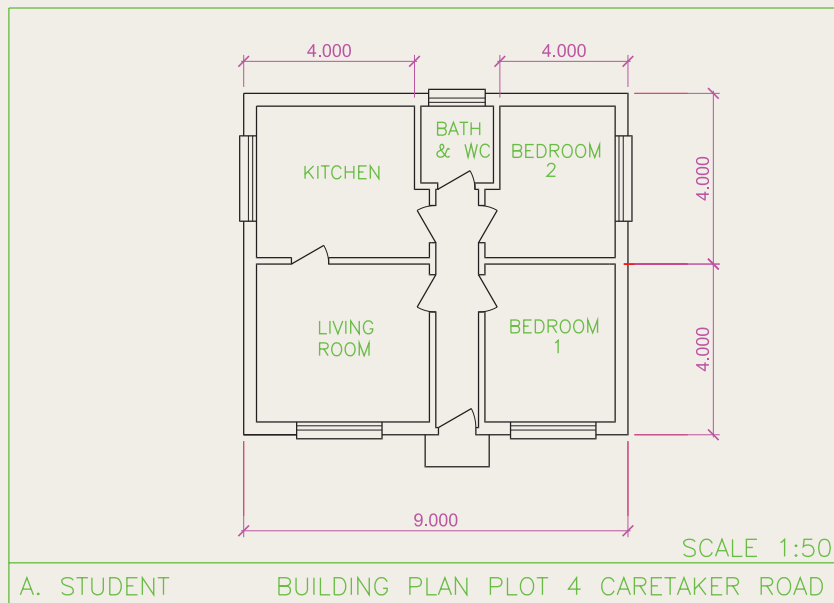
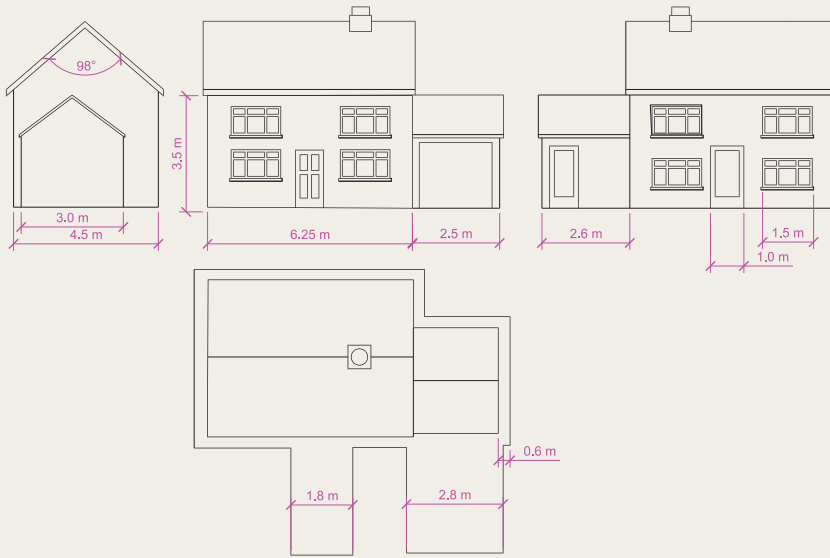
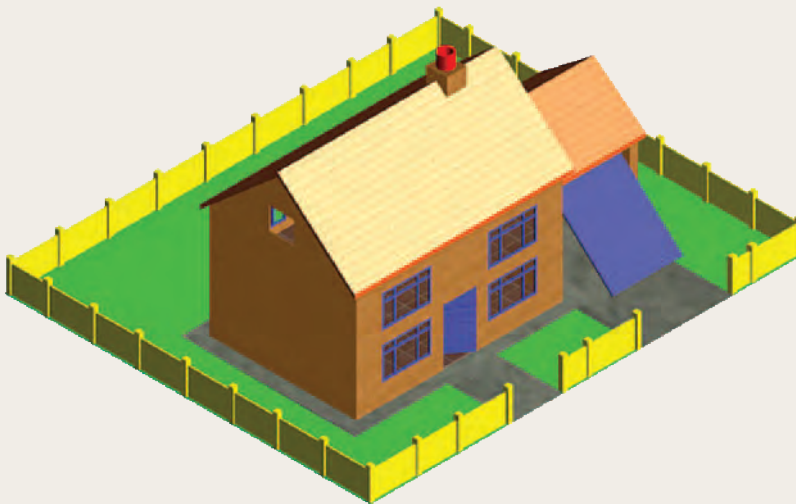

Fig. 16.31 Exercise 3
Fig. 16.32 Exercise 4 – orthographic views
Fig. 16.33 Exercise 4 – the rendered model
4. Fig. 16.31 shows views of a house in orthographic projection and Fig. 16.32 a rendering of the 3D model of the house and its garden. Working to the given details construct and render the 3D model. (Fig. 16.33)